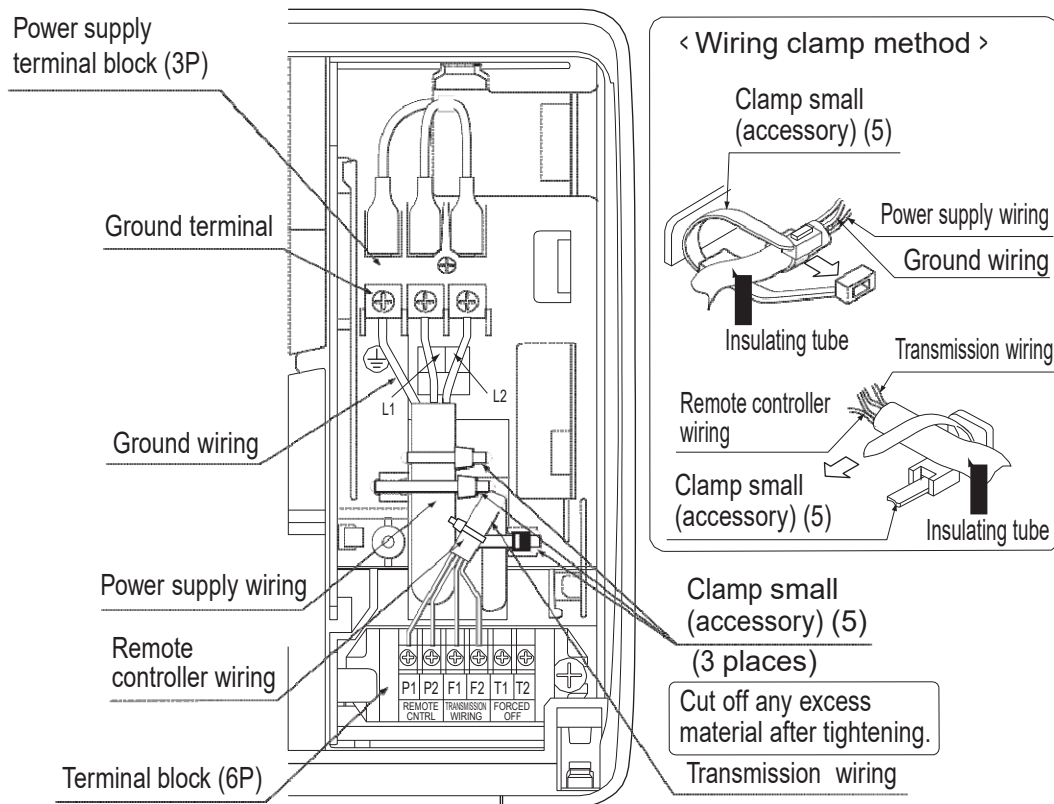

Fig. 22
(Refer to Fig. 22)
When doing this, tie the remote controller wiring and the transmission wiring using the included clamp (small) (5) and then firmly secure using the included clamp (small) (5) according to the figure. **(Refer to Fig. 22)**